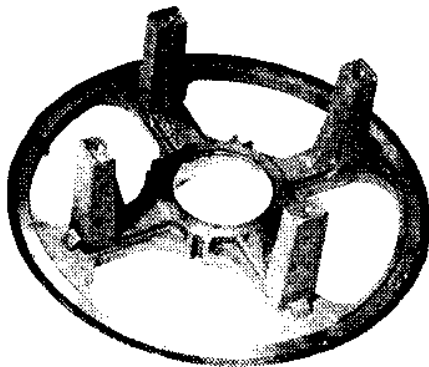

FIGURE 6-48
4. Inspect the end bracket for stripped threads, cracks, and burred or rough mating surfaces. Inspect the bearing bore for burrs or wear. If the bracket shows excessive bearing bore wear, it should be repaired or replaced. (Figure 6-48.)